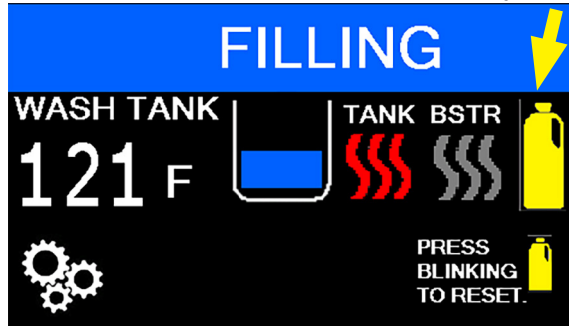

Fig. 34 - DETERGENT LOW ALERT - (flashing bottle)
1. If the IN-LINE detergent sensor does not detect chemical within the 40 sec. prime cycle, then, a flashing yellow bottle symbol appears on the operation screen indicating a 'DETERGENT LOW ALERT', (Fig. 34).